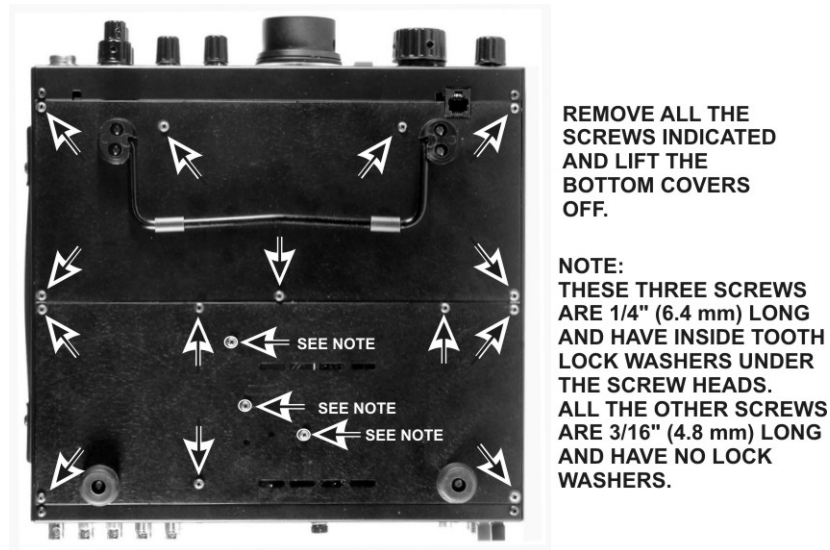

Figure 6. Removing the Bottom Covers.
- ☐ Turn the K3 upside down and remove the bottom covers (see Figure 6).
☐ Replace both bottom covers using the 4-40 black pan head screws you removed earlier. Note that three locations take the 4-40 1/4" (6.4 mm) black pan head screws with lock washers as shown in Figure 6, while the remainder are 4-40 3/16" (4.8 mm) screws. Be sure to replace these screws in the correct locations. Make sure all the screws are secure, but do not over tighten them/
Failure to replace the three 1/4" (6.4 mm) screws with their lock washers in the locations shown in Figure 6 may destroy power transistors in your K3!